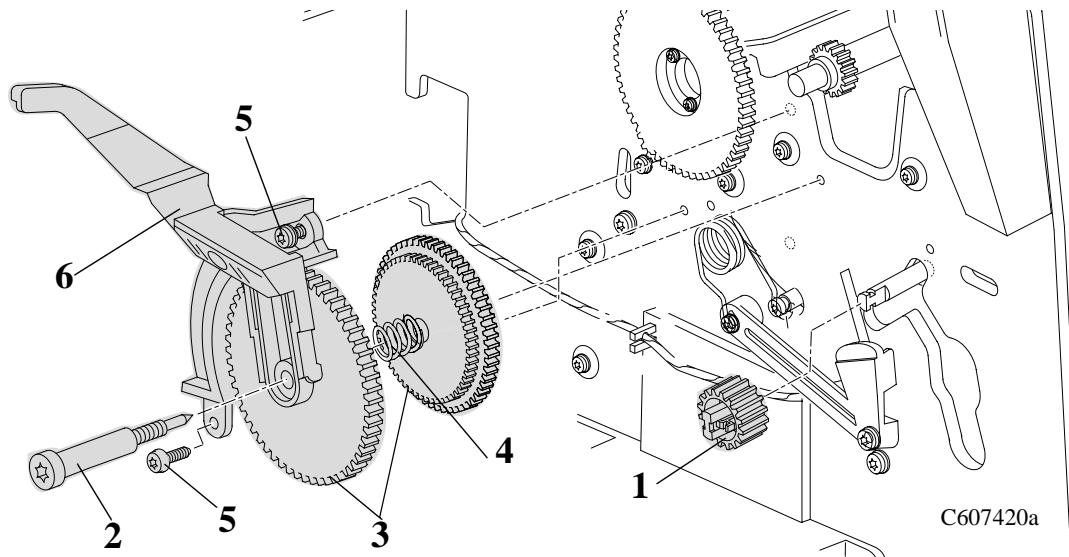
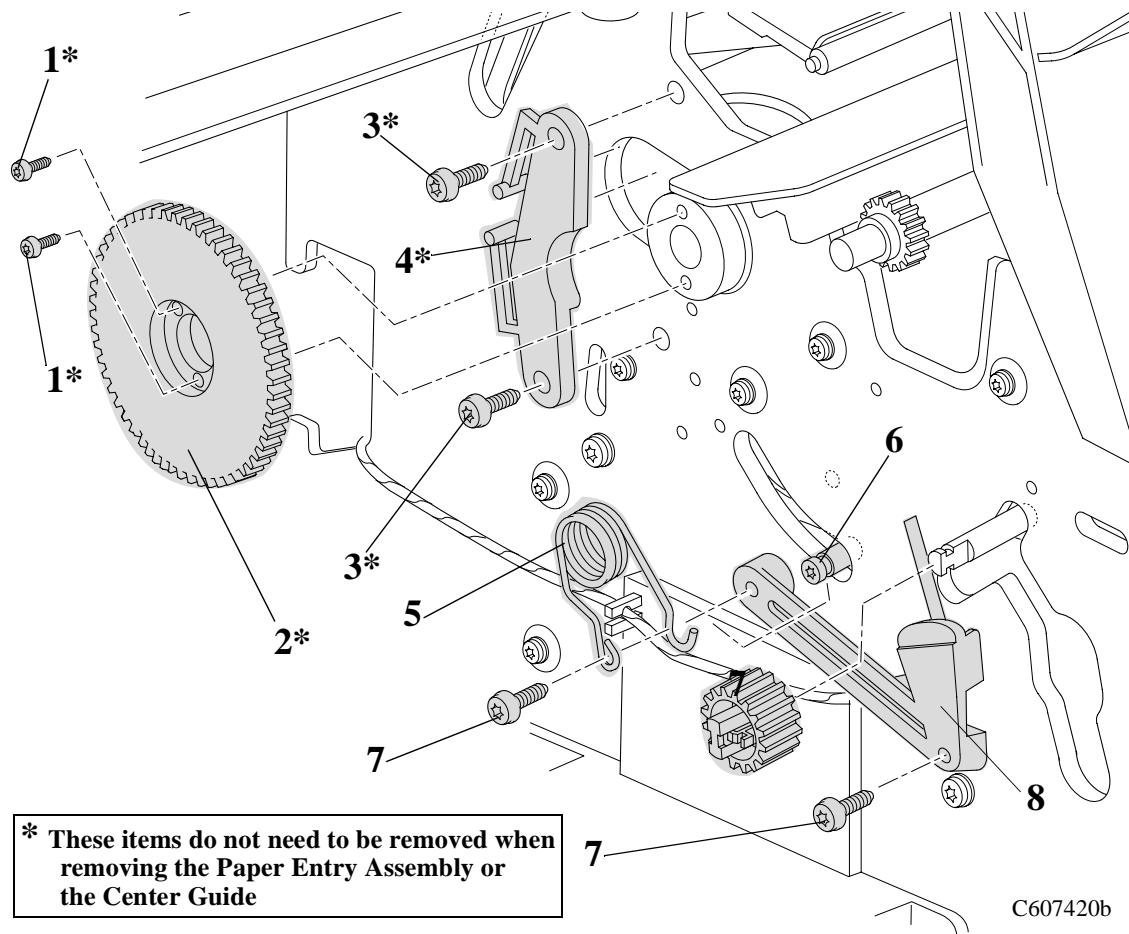

Figure 19: Clutch Assembly
Figure 20: Miscellaneous Parts
Refer to Figure 19 and Figure 20.
From steps 2 to 5, refer to Figure 19.
- NOTE** For the following steps, refer to Figure 20.
6. Remove the two T-10 screws (item 1) from the left roller gear (item 2) attached to the left side of the roller.
7. Remove the two T-20 screws (item 3) from the roller support (item 4) and remove the support.
8. Release the tension from the torsion spring (item 5) by removing the arm of the spring off the spring hook (item 6).
9. Remove the two T-15 screws (item 7) from the pinch sensor bracket (item 8) and remove the bracket with the sensor attached. Release the sensor cable from retaining clips to remove completely.
10. Remove the spring hook (T-15) (item 6).